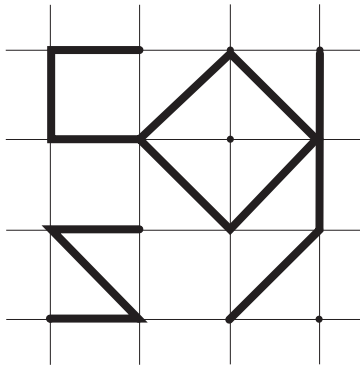

Figure 10
- Lightly pencil another grid of 1/2 in. squares. Air brush dots as small as possible and connect dots with straight lines of even width. See Figure 10.